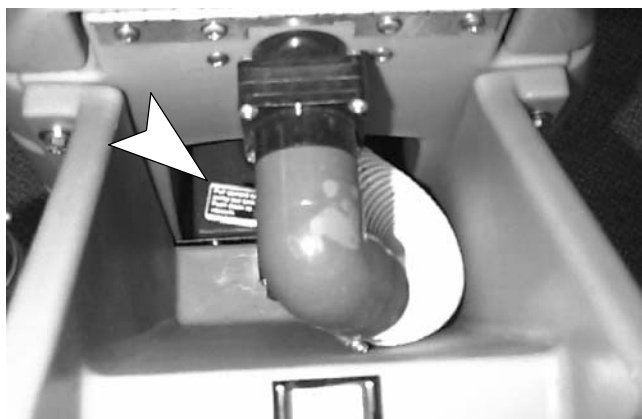

FIG. 18
4. Pull up on drain lever and turn on switch (Figure 18).